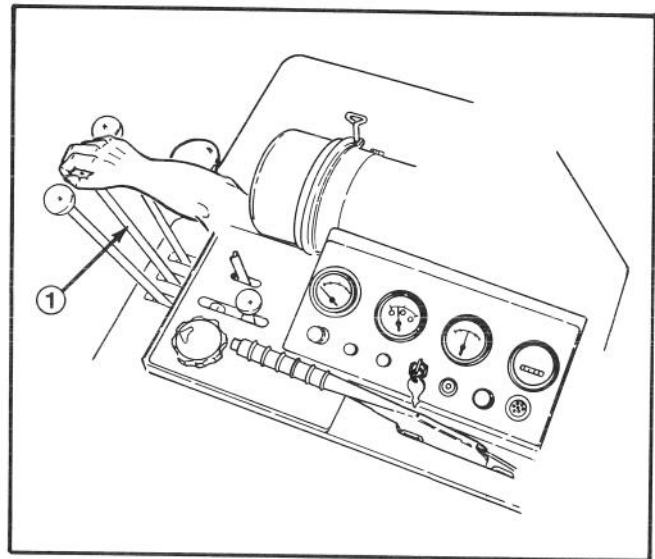

Figure 7
- B. With parking brake "ON" start the traction unit and adjust the engine to half throttle. Be sure to release the lift arm lock lever for the #1, #2 and #3 cutting units and put the reel lift control for the #1, #2, and #3 cutting units in the lower position (Fig. 7). Release the lever and let it return to the neutral position.